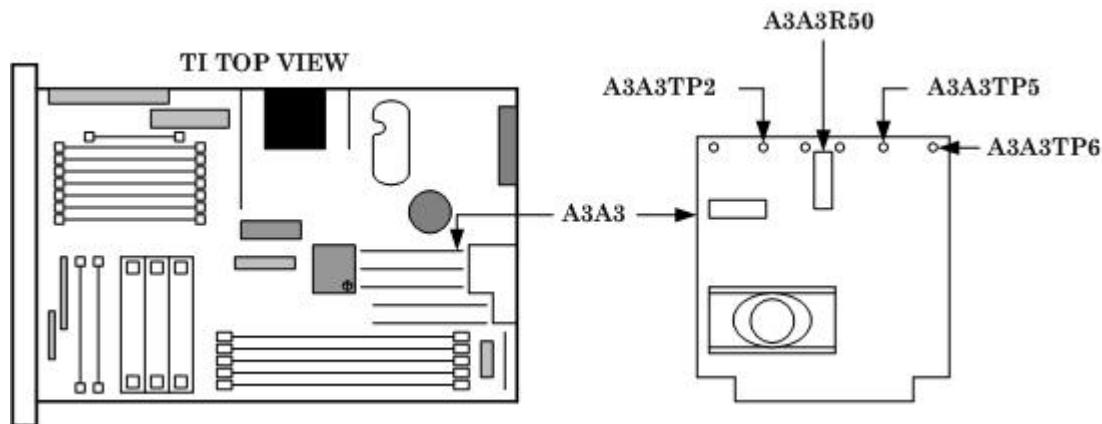

Figure 17. A3A3 card.
(2) Connect digital multimeter to A3A3TP5 (fig. 17) and chassis. If digital multimeter does not indicate between +19.998 V dc and +20.002 V dc, perform **b** (2) below.
- (2) Adjust A3A3R50 (fig. 17) for an indication of 20.000 V dc on digital multimeter. No further adjustments can be made (R).